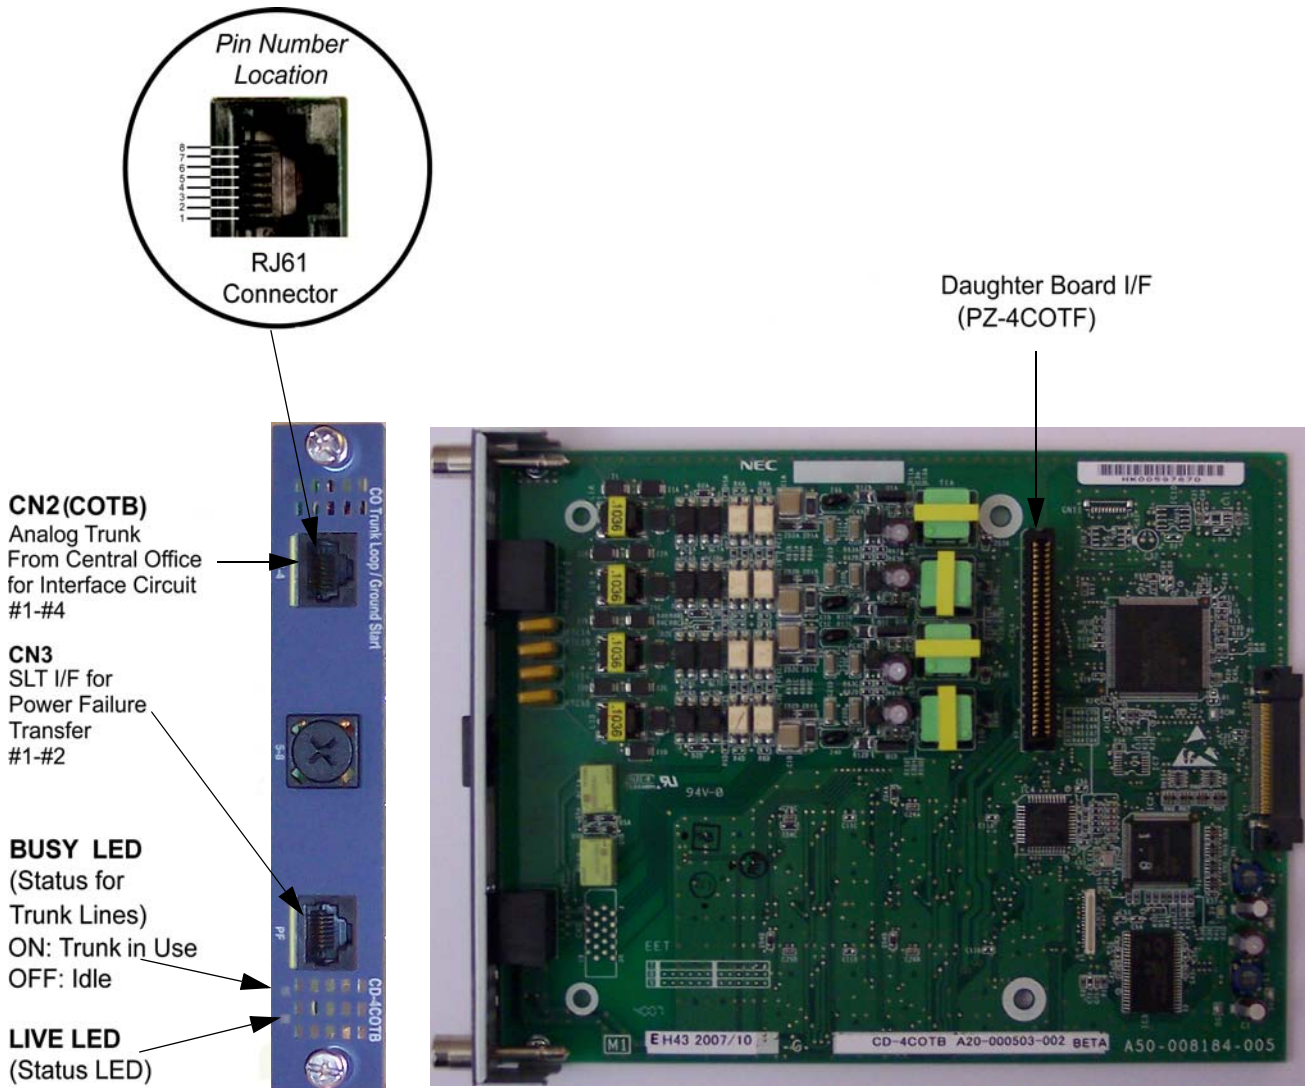

Figure 6-64 Power Failure Connector (CN3) Shown on GCD-4COTA Blade
4. Terminate the extension leads to GRN/RED of the modular jack. Terminate the unused leads to the jack. Refer to Figure 6-64 Power Failure Connector \(CN3\) Shown on GCD-4COTA Blade on page 6-63.